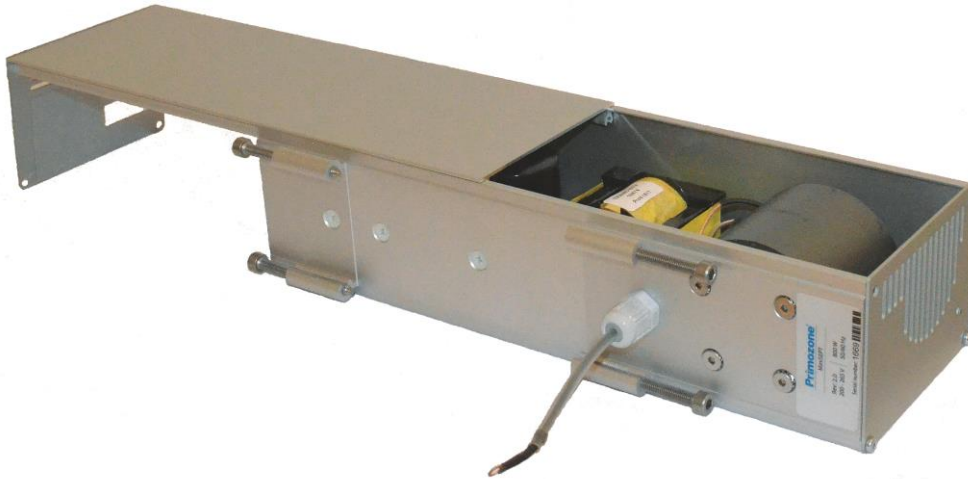

Figure 60 Remove the cover
- c. Remove the cover, see Figure 60.